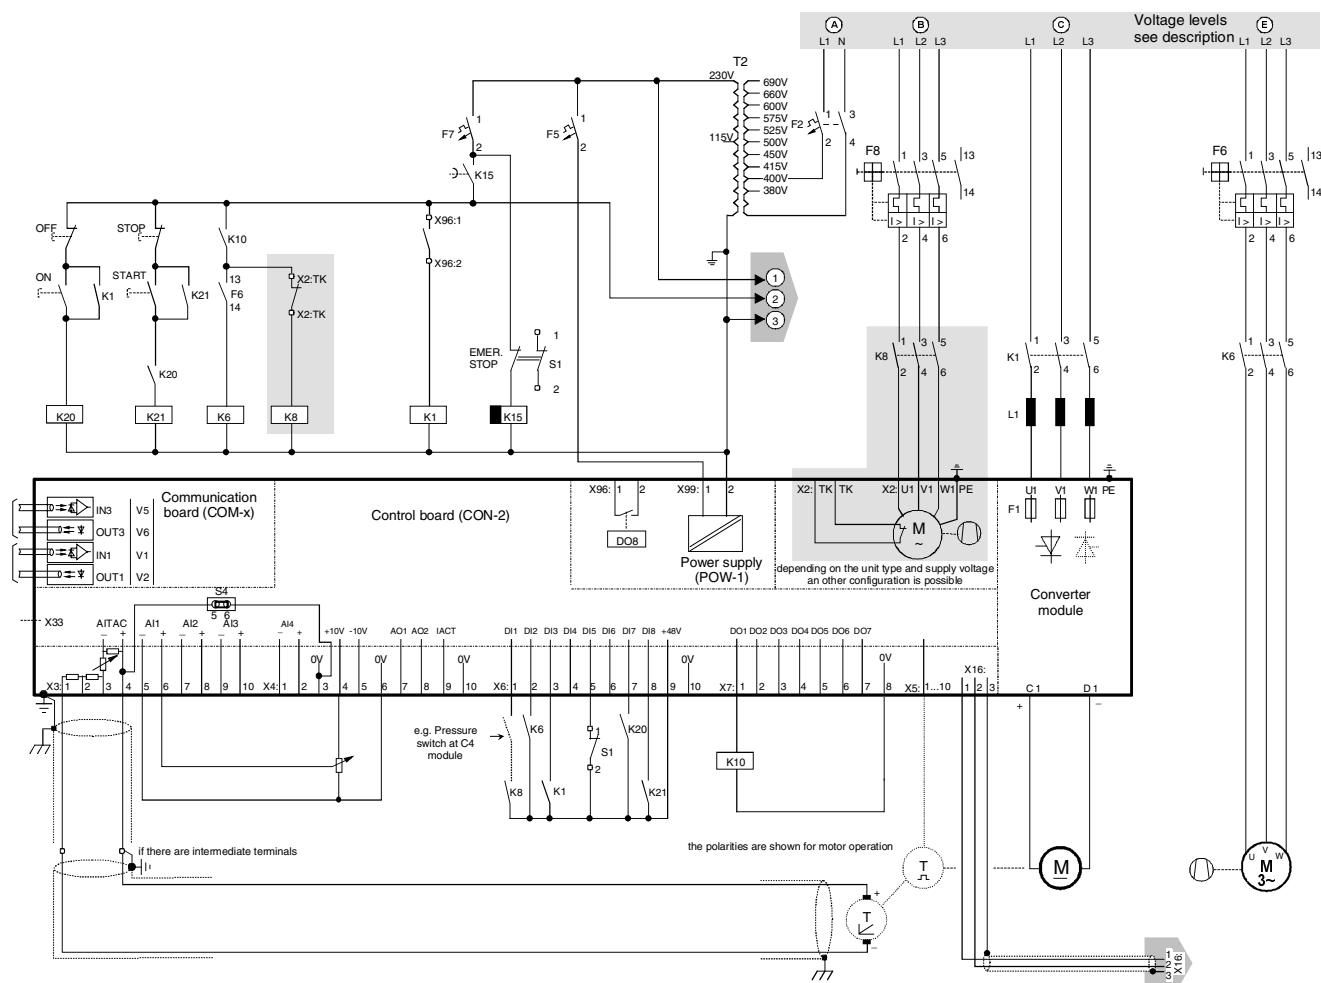

Figure 3.5/1: Typical configuration for high power drives (armature unit DCS 500B)
This wiring diagram can be used for 12-pulse parallel systems. It's based on the configuration shown at figure 3.1/1, too. Such a configuration can be done with two 25 A converters as well as with two 5150 A types. Most often this configuration is selected because of the total power. That's the reason why the wiring is already adapted to A5 (converter fan 1-phase) or C4 type converters. For the field supply, please take the field wiring at figure 3.5/2. If a smaller type is used, pick up the part of interest shown at one of the figures before.
- Motor field supply: *see fig. 3.5/2*
This configuration is basically identical to the one shown at figure 3.5/1. The drive system is supplied by a 12-pulse transformer, which has got two secondary windings with a phase shift of 30 degrees. In this case a decision has to be made, how the auxiliary voltage levels **A**, **B**, **C**, **D**=field and **E** are generated. Attention has to be paid to the auxiliary voltage **A**:
The two converters supplying the armature exchange information via the flat cable connection X18: and the analog I/O. The field converter is controlled by the left converter based on a serial link. The basic signals ON/ OFF and START/STOP have to be fed to both converters. The actions caused by a command are similar to the description given for figure 3.5/1.